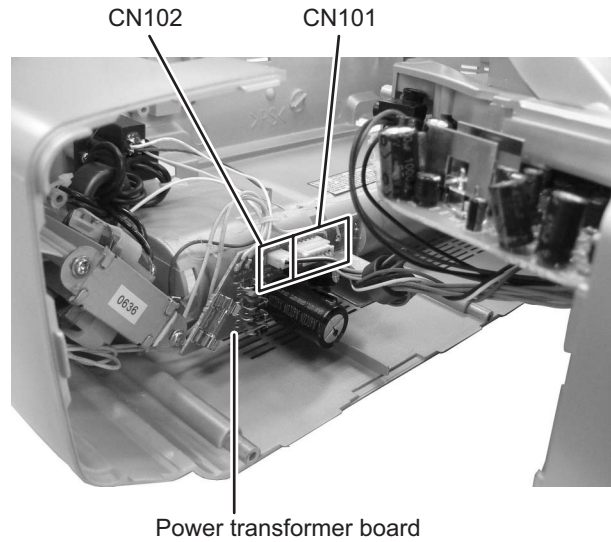

Fig.3
- (3) Disconnect the connector wire from Amplifier board assembly connected to connector **CN101** of the Power transformer board assembly. (See Fig.3)
- (4) Disconnect the connector wire from Capstan motor connected to connector **CN102** of the Power transformer board assembly. (See Fig.3)